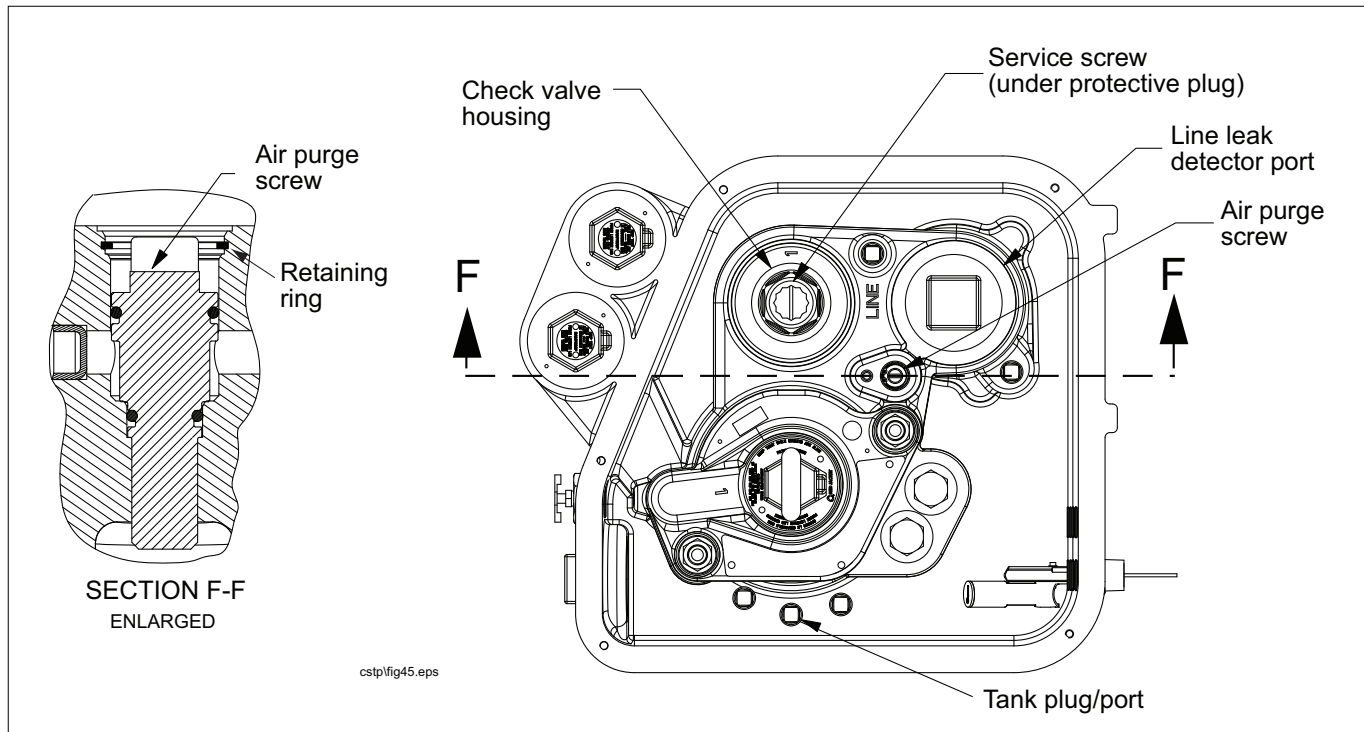

Figure 49. Locating Air Purge Screw
22. Turn the air purge screw counterclockwise until its shoulder comes in contact with the retaining ring (see Figure 49).
8. Locate the air purge screw on the top of the manifold (see Figure 49).